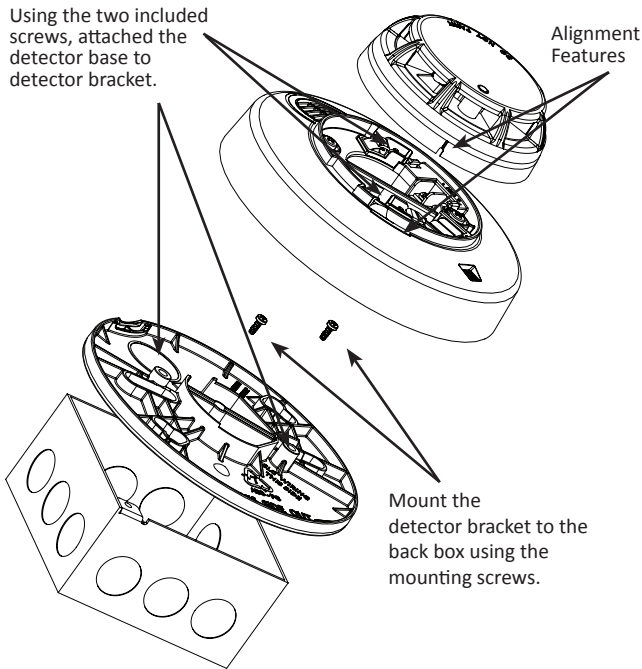

FIGURE 6: Assembly of Detector
3. To install the detector head onto the base, match the detector heads to the base using the alignment feature and twist clockwise until the detector heads snap into place (FIGURE 6).